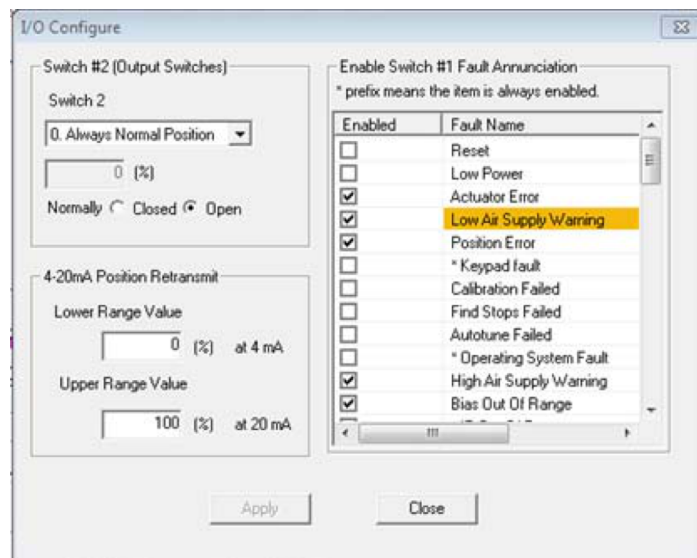

Figure 101 - Launching Configure I/O
Click **Configure I/O** on the *Configure* screen and ESDVue launches the *I/O Configure* window (*Figure 101*). You can change the following configuration parameters:
1. Click **Configure I/O** on the *Configure* screen and the *I/O Configure* window appears (*Figure 101*).
- *Position Retrasmmit* - See "*Position Transmitter (AO)*" on page 134 for descriptions of all the I/O settings.